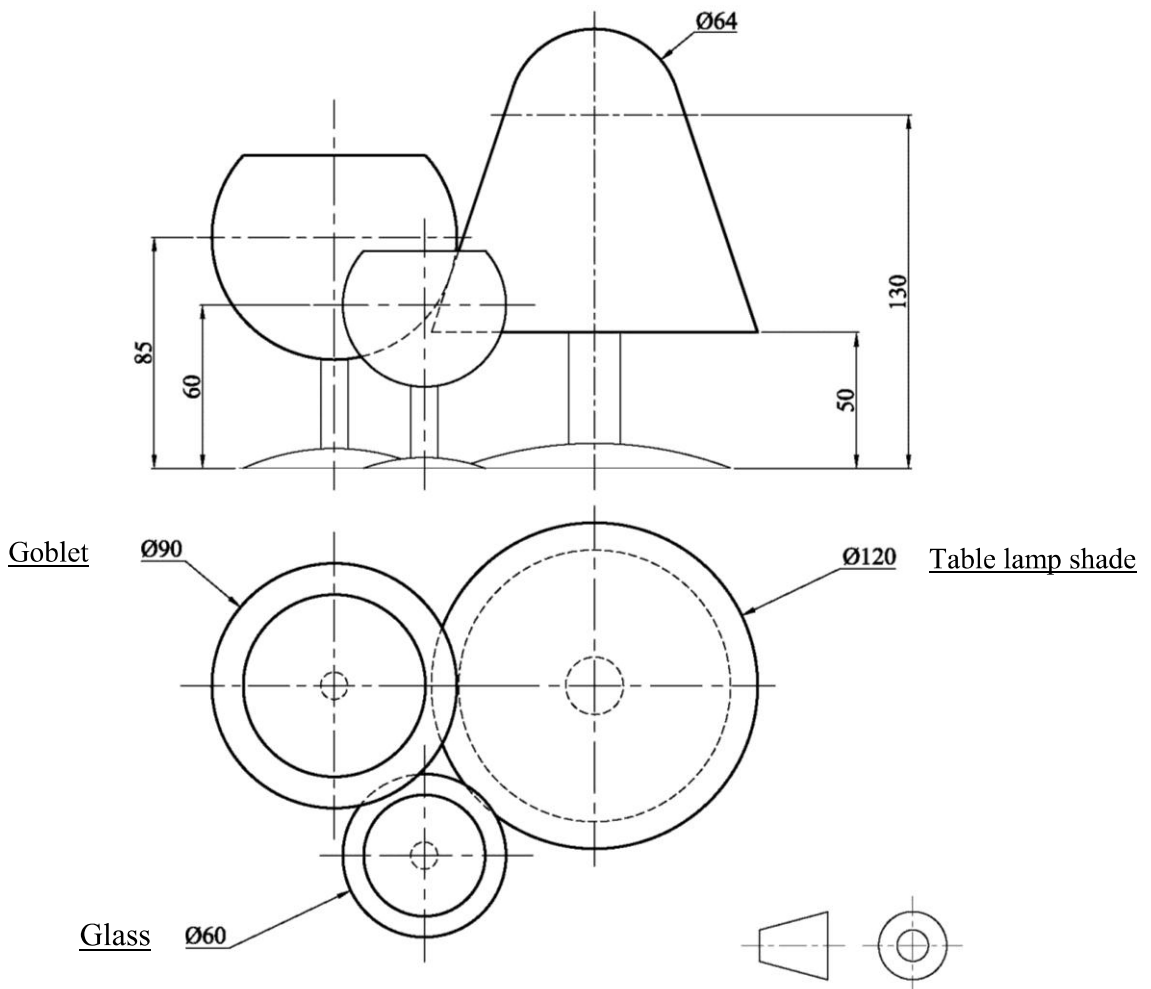

FIG. 4b
- Draw, full size, the plan and elevation of the dimensioned table-lamp and shade given in Figure 4b.